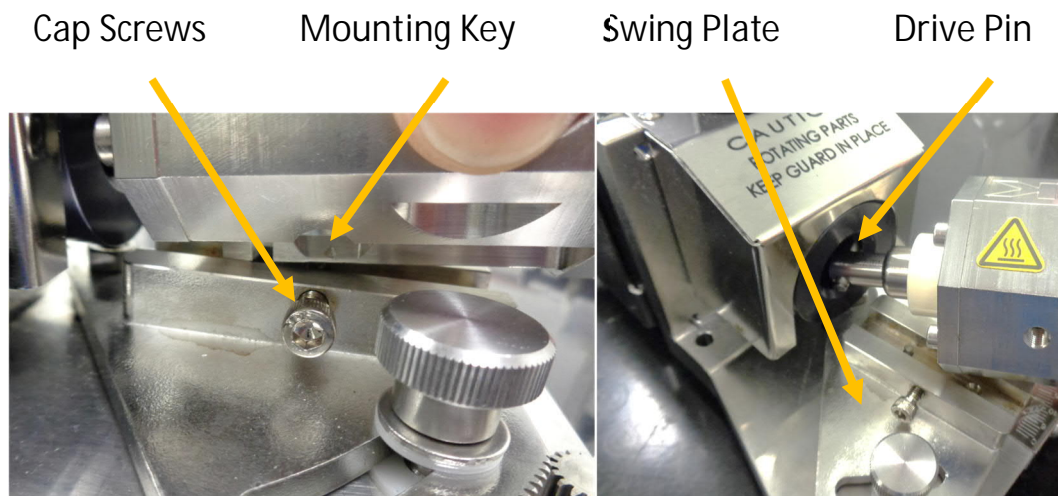

Figure 7.4 Pump Module Removal
7.4.5.1 Pump Module Removal (Figure 7.4)